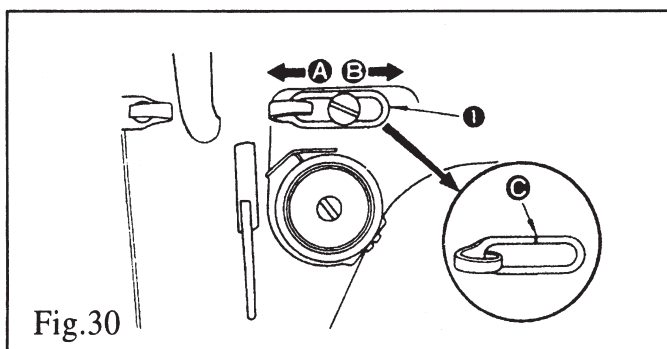

Fig.30
1)Loosen setscrew ①,and adjust the presser bar height or the angle of the presser foot.
25.ADJUSTING THE THREAD TAKE-UP STROKE(FIG.30)